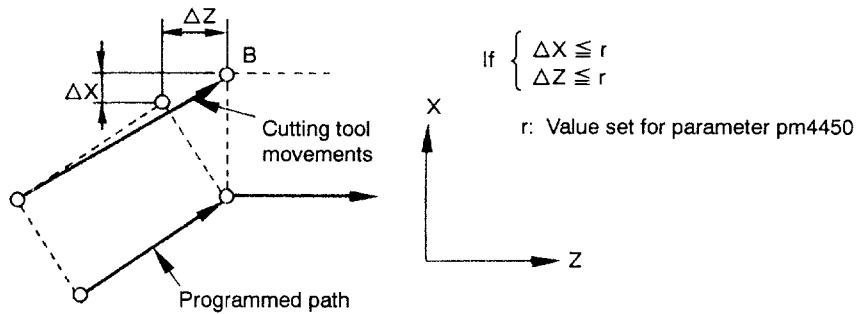

Fig. 3.87 If Both ΔX and ΔZ are Smaller Than Specified Amount
- Even in the M96 mode, if both ΔX and ΔZ are smaller than the specified amount as shown in Fig. 3.87, round-the-arc paths are not generated but the cutting tool moves directly to point B. The amount to determine whether or not round-the-arc paths are generated is set for parameter pm4450.